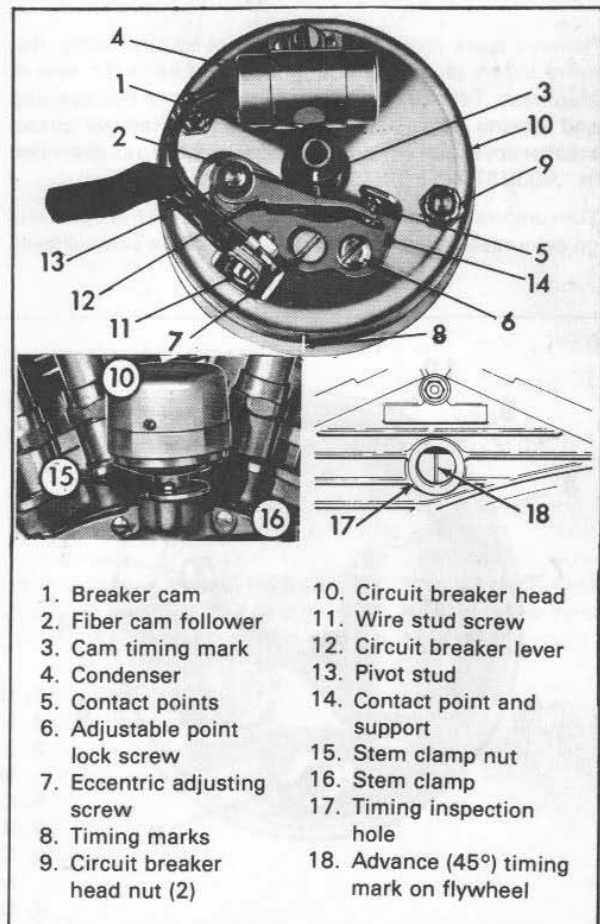

Figure 5-18. Circuit Breaker (1970)
See Figure 5-18 and proceed as follows:
and continue turning engine very slowly (less than 1/2 revolution) until advanced timing mark on flywheel is aligned in inspection hole, as shown in Figure 5-18.
Timing mark (3, Figure 5-18) on cam is the approximate point at which contacts (5) open and front cylinder ignition spark occurs. When the wide cam lobe opens the points, rear cylinder ignition spark occurs. Connect a circuit tester such as a light bulb across the contact points to determine the exact point of contact opening. Loosen circuit breaker clamp nuts just enough to shift circuit breaker head (10) so
REMOVING CIRCUIT BREAKER FROM ENGINE (Figure 5-18)
Inspect circuit breaker contact points (5, Figure 5-18). If lever fiber (2) is badly worn, replace points. Points that are burned or pitted should be replaced or dressed with a clean, fine cut contact point file. Do not attempt to remove all roughness nor dress point surfaces down smooth; merely remove scale or dirt. Contact point file should not be used on other metal and should not be allowed to become greasy or dirty.
To replace a set of circuit breaker points, loosen screw (11, Figure 5-18) and slip condenser wire and connection from screw. Lift circuit breaker lever (12) from screw (11) and pivot stud (13). Remove screw (6) and circuit breaker contact point and support (14). Install new points in reverse order of disassembly. Position circuit breaker lever (12), lever notch registered with screw (11), between brass washer and condenser wire end. Be sure point faces seat squarely against each other. Adjust point gap as previously described in "ADJUSTING POINTS."
Remove spark plugs to permit engine to turn easily; remove screw plug from timing inspection hole in left side of crankcase. Telescope front push rod cover so that opening and closing of valve can be observed. Turn engine in direction in which it runs until front piston is on compression stroke (just after front intake valve closes) and continue turning engine very slowly (less than 1/2 revolution) until advance timing mark (Figure 5-18) on flywheel is aligned in the inspection hole.
Assemble circuit breaker as follows: Lubricate camshaft end of shaft and stem assembly (24) and install breaker cam (18) on camshaft so that notches in cam engage with flyweights (20). Place breaker base (10) on stem and shaft assembly. Install nuts and washers (21). Do not overtighten. Install new seal (17). Before installing circuit breaker, turn shaft gear to approximately align cam mark (3) with cam follower (2) as shown in Figure 5-18. Insert circuit breaker into gearcase with wire toward rear of engine. This will position circuit breaker points to outside of engine permitting access to adjusting screws when cover is removed.